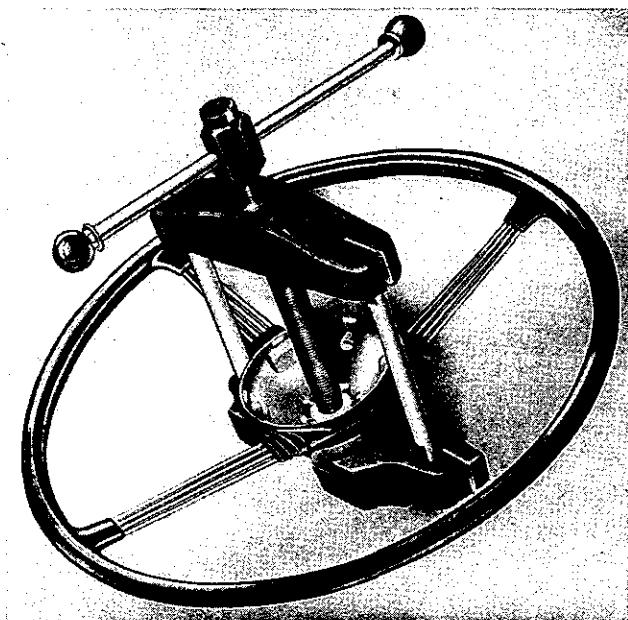

Fig. 6. Removing steering wheel with special puller
position when reassembling. Unscrew nut on the steering boss and withdraw steering wheel with wheel puller as shown in Fig. 6.
12. Remove the nut which secures the steering wheel to the inner column ( $1\frac{5}{16}$ " A/F spanner) and remove steering wheel with the extractor as shown in Fig. 6.